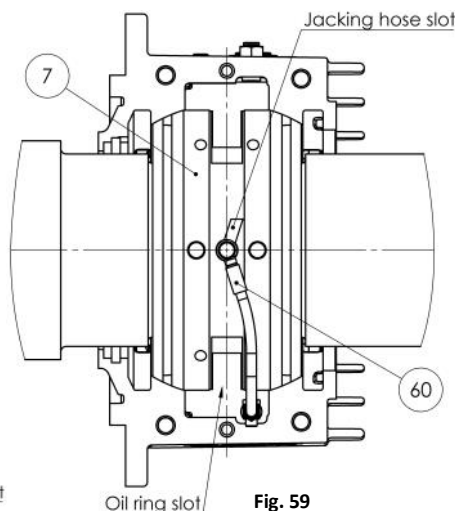
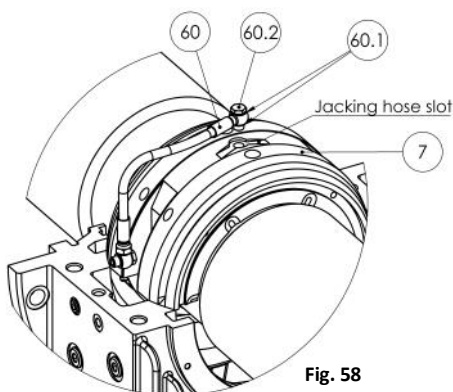

Fig. 59
Fig. 58
- Pre-assemble the hydrostatic hose (60) with two copper rings (60.1) and its fittings to the tapped hole at the lower half of the shell (7) (Fig.58). Attention to the right position of the hose (look on the assembly drawing), so that the oil ring can not touch the hose while machine is running (Fig.59).